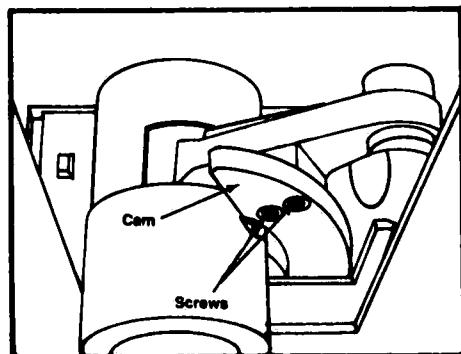

Figure 2-1. Location of Cam.
Remove four screws securing the cover cap (5, Fig. 8-5) and remove the cover cap. Elevate the table to its full height using the emergency pump pedal (see item 10 in paragraph 3-1). Remove the two screws securing the cam (Fig. 2-1) and remove the cam.